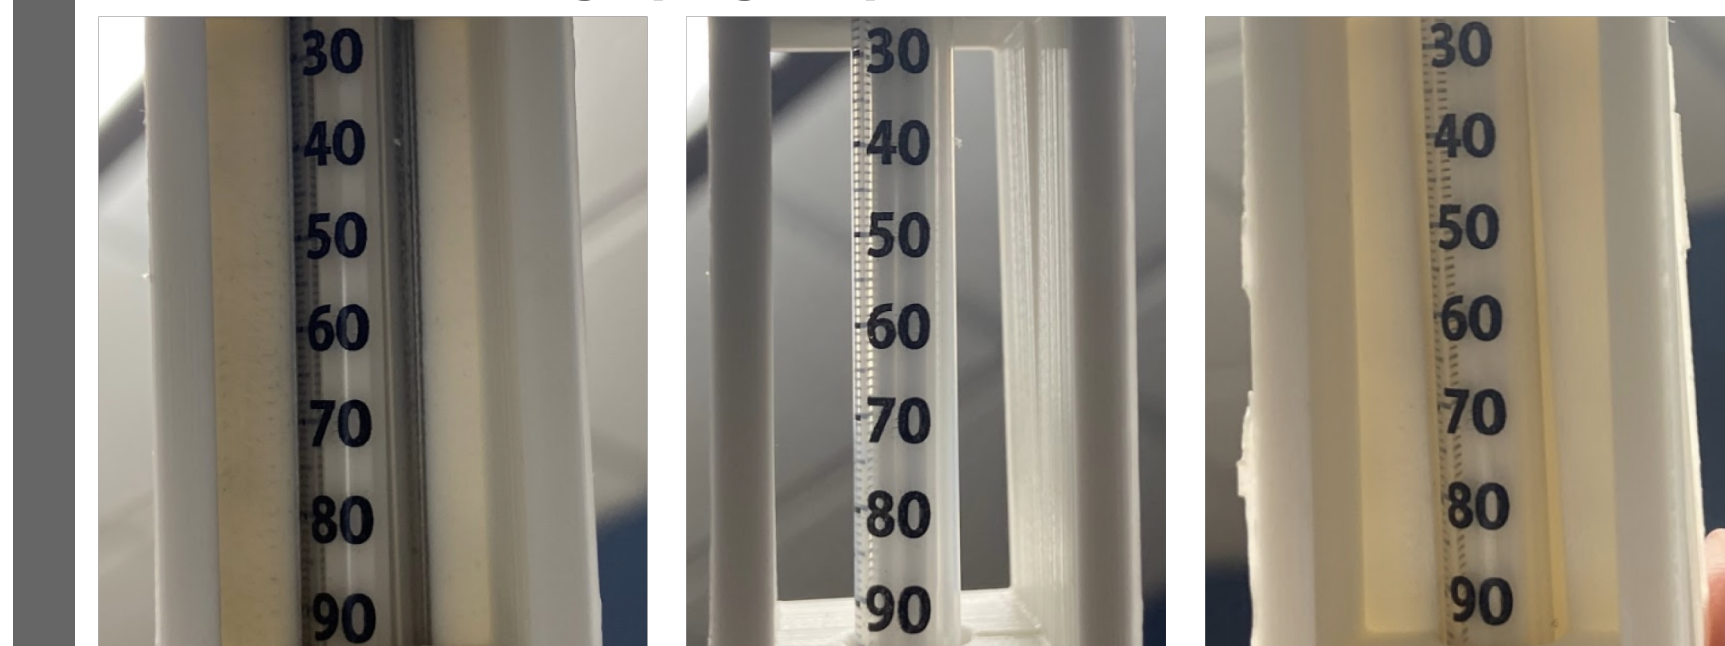

Figure 9: Three testing conditions for visibility testing. Left to right: Reflective Background, Double Window, Single Window
- Single window, double window, and reflective paint tested (Fig. 9)
Visibility Testing: Double window: most visible for user and feasible for manufacturing (Fig. 9)